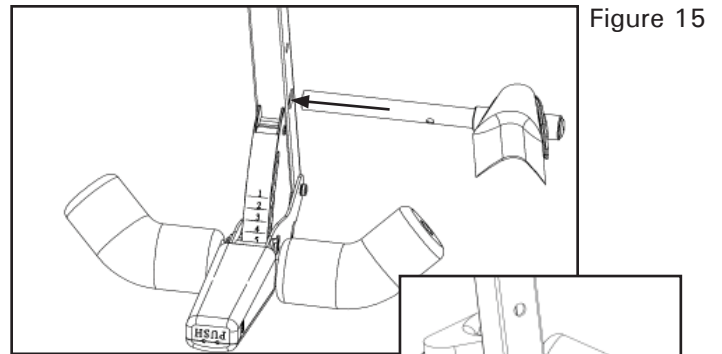

Figure 15
- With the rounded corners of the rear foam Heel Cup facing down, insert the Rear Bar with one Heel Cup (IA-1113) into the large hole at the bottom of the Main Shaft (Figure 15).